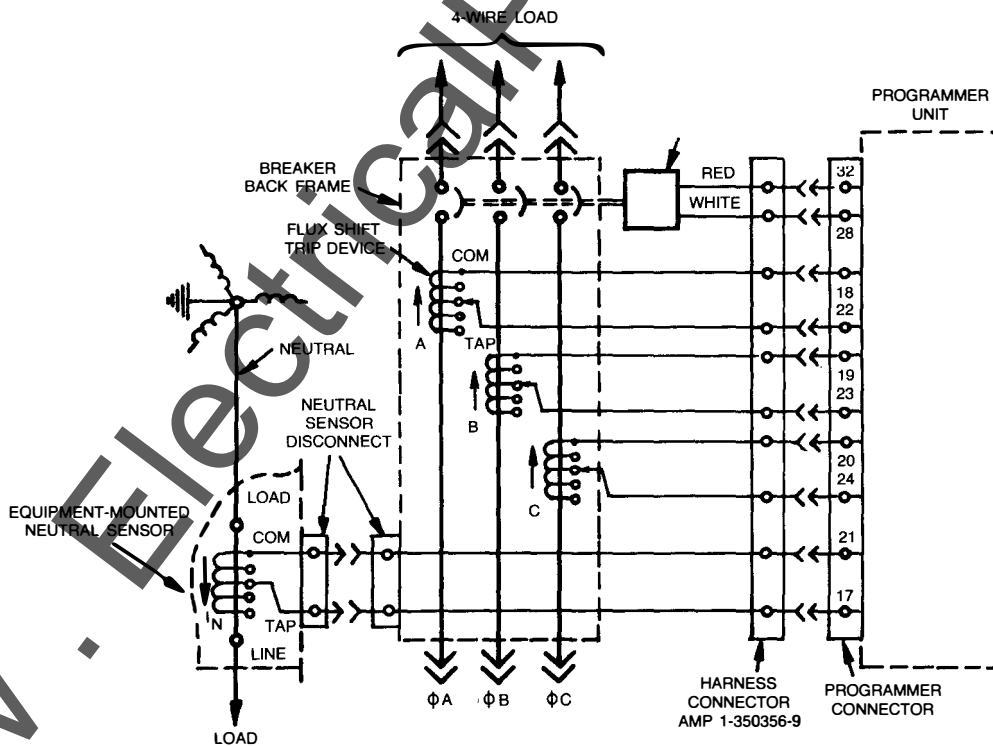

Figure 6-4 Cabling Diagram—MicroVersaTrip With Ground Fault on 4-Wire Load—Breaker Reverse Fed
- c. Verify that on breakers where the lower studs connect to the supply source, the neutral sensor has its LOAD end connected to the source. See Figure 6.4.